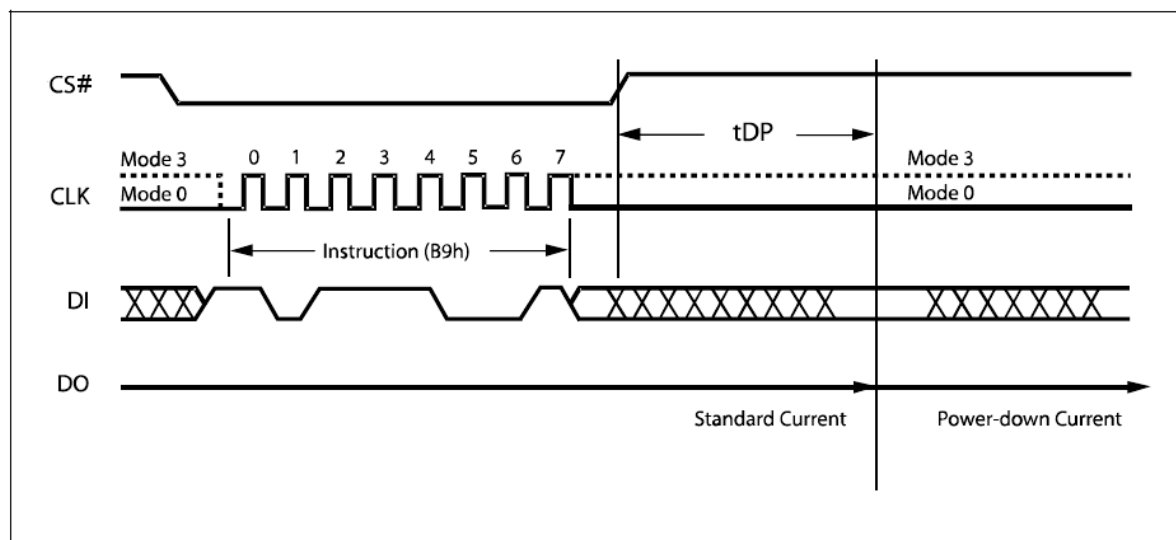

Figure 21. Deep Power-down Instruction Sequence Diagram
The instruction sequence is shown in Figure 21. Chip Select (**CS#**) must be driven High after the eighth bit of the instruction code has been latched in, otherwise the Deep Power-down (DP) instruction is not executed. As soon as Chip Select (**CS#**) is driven High, it requires a delay of t_{DP} before the supply current is reduced to I_{CC2} and the Deep Power-down mode is entered.